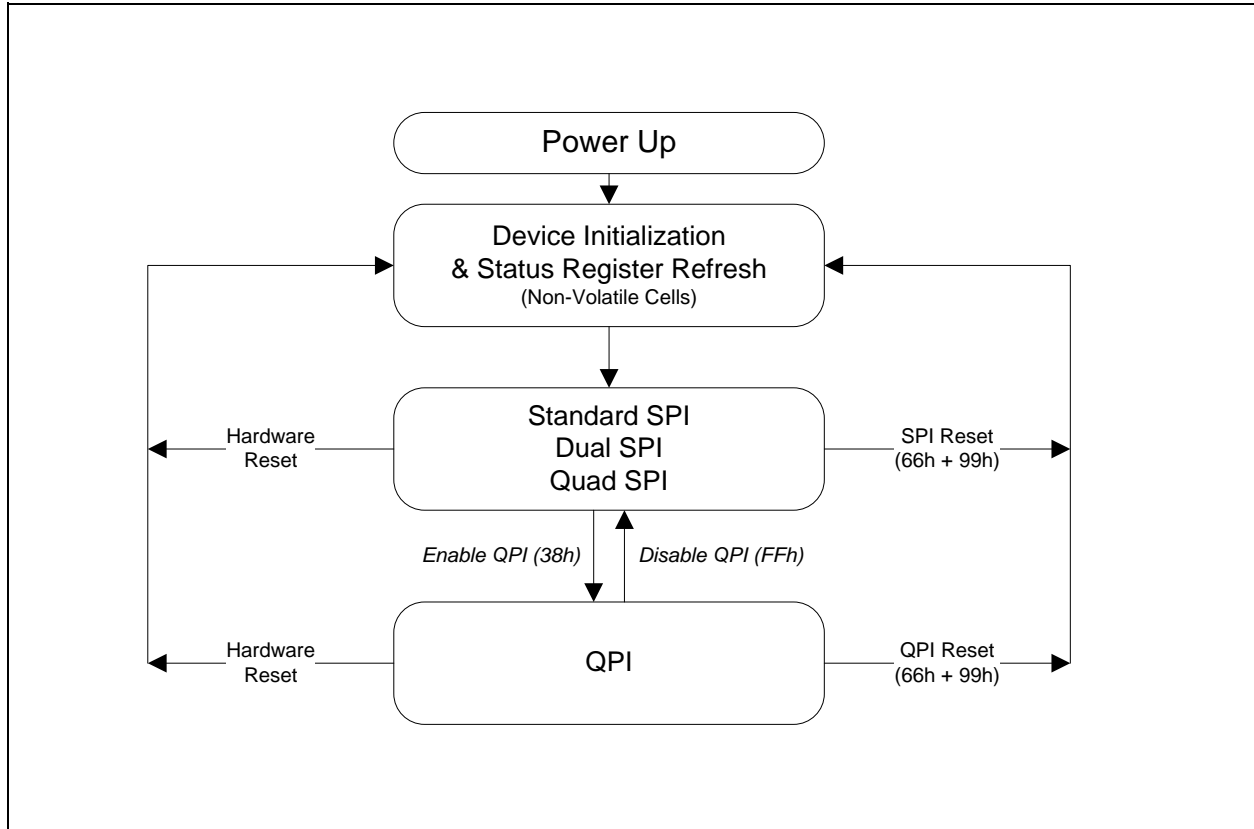

Figure 3. W25Q80EW Serial Flash Memory Operation Diagram
The W25Q80EW supports Quad Peripheral Interface (QPI) operations only when the device is switched from Standard/Dual/Quad SPI mode to QPI mode using the “Enter QPI (38h)” instruction. The typical SPI protocol requires that the byte-long instruction code being shifted into the device only via DI pin in eight serial clocks. The QPI mode utilizes all four IO pins to input the instruction code, thus only two serial clocks are required. This can significantly reduce the SPI instruction overhead and improve system performance in an XIP environment. Standard/Dual/Quad SPI mode and QPI mode are exclusive. Only one mode can be active at any given time. “Enter QPI (38h)” and “Exit QPI (FFh)” instructions are used to switch between these two modes. Upon power-up or after a software reset using “Reset (99h)” instruction, the default state of the device is Standard/Dual/Quad SPI mode. To enable QPI mode, the non-volatile Quad Enable bit (QE) in Status Register-2 is required to be set. When using QPI instructions, the DI and DO pins become bidirectional IO0 and IO1, and the /WP and /HOLD pins become IO2 and IO3 respectively. See Figure 3 for the device operation modes.